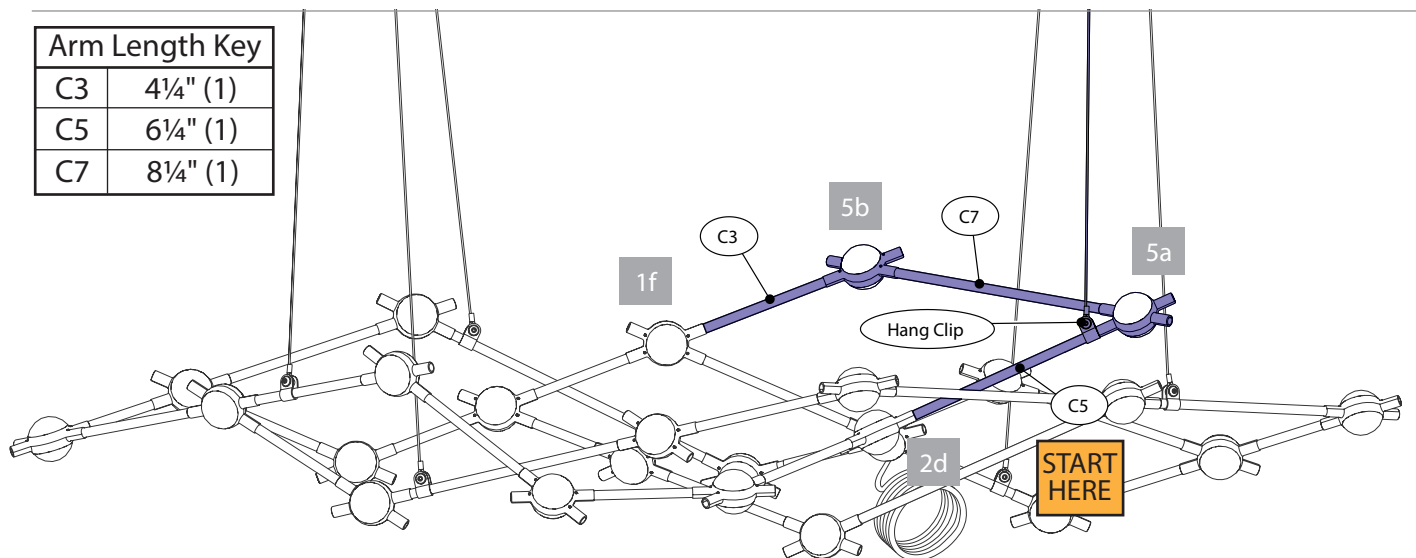

Fig. 9a - Front View
- Start by connecting the C5 Arm and 45° Hub (5a) to the remaining Hang Clip from Ceiling Hanger 2 (note the Hang Clip orientation in Figs. 9a/9b) and then to the 45° Hub (2d) from Section 2.
- Continue by connecting Arms and 45° Hubs following the order and pattern in the Figs. 9a/9b and complete this section by connecting the C3 Arm to the 45° Hub (1f) from Section 1.